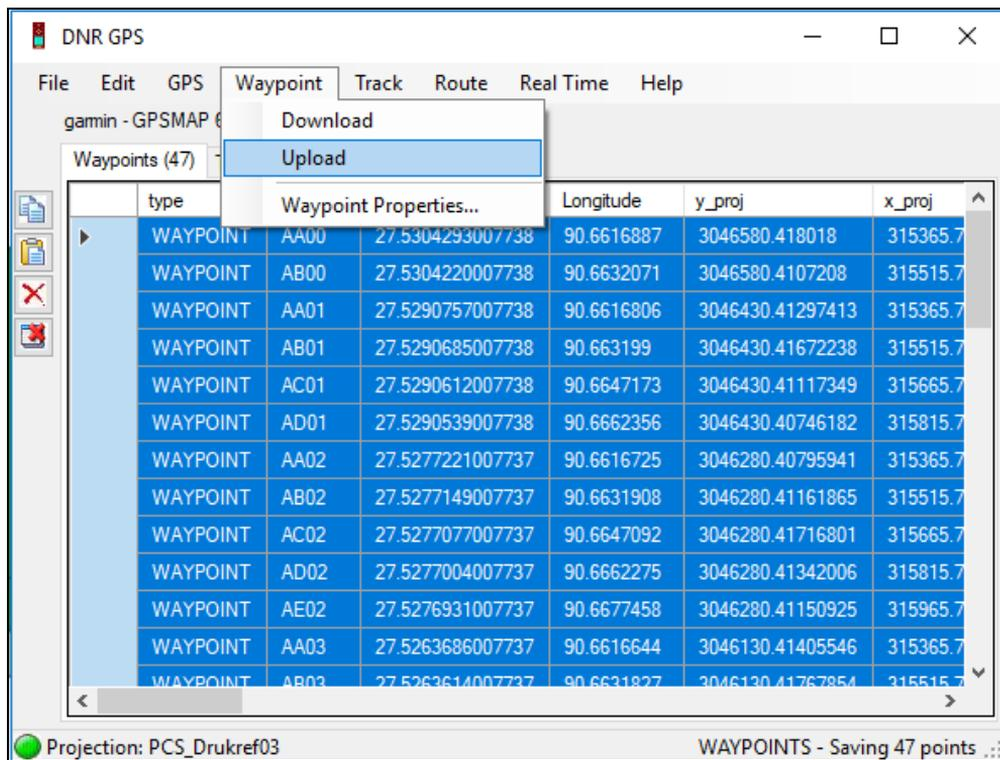

Figure 3h
e) Now upload the Waypoint to GPS from the waypoint menu and upload the waypoints until it is complete, see figure 3h below.